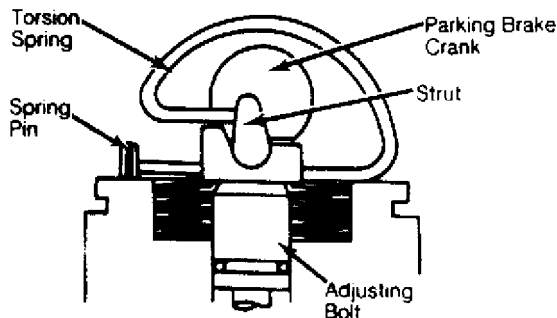

Fig. 4: Installing Conical Spring and Adjusting Bolt on RX7 Rear Caliper
4) Assemble conical spring and adjusting bolt. See Fig. 4. Install adjusting bolt assembly, strut and torsion spring in caliper.